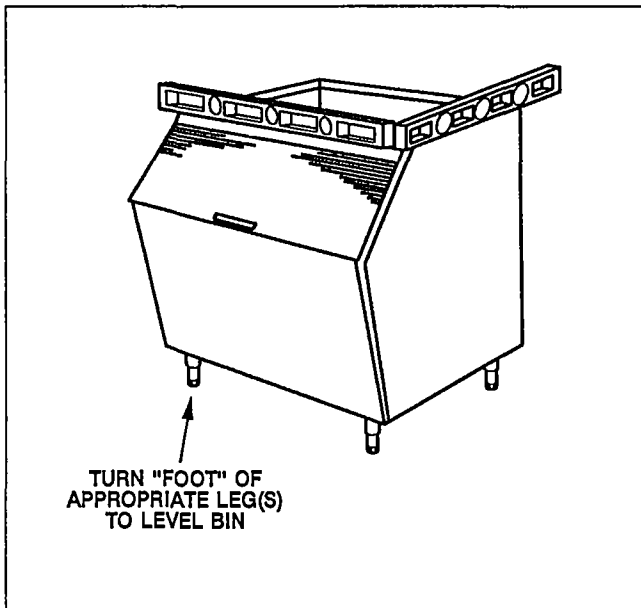

FIGURE 2. LEG ADJUSTMENT
2. Level the bin to assure bin door closes and seals properly. Turn the "foot" of the appropriate leg(s) to level bin. Use level on bin top, Figure 2.